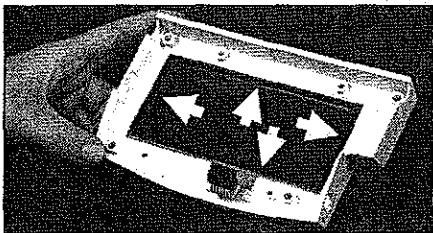
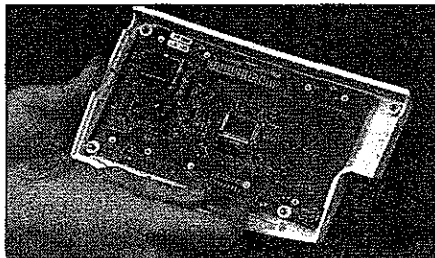

Figure 20
Figure 21
4. Remove and discard the 4 panel seal strips located on the underside of the membrane switch (see Figure 20).
3. Turn the bezel top over. Peel off the adhesive backing on each of the four strips of panel seal, and attach them to the underside of the membrane switch as illustrated in Figure 20.
4. Install the display PCB/LCD assembly to the bezel top ensuring alignment of temperature jack, by installing the four (4) 4-40x1/4" Phillips pan-head screws.
5. Reconnect the membrane switch mylar connector to the display PCB (see Figure 21).